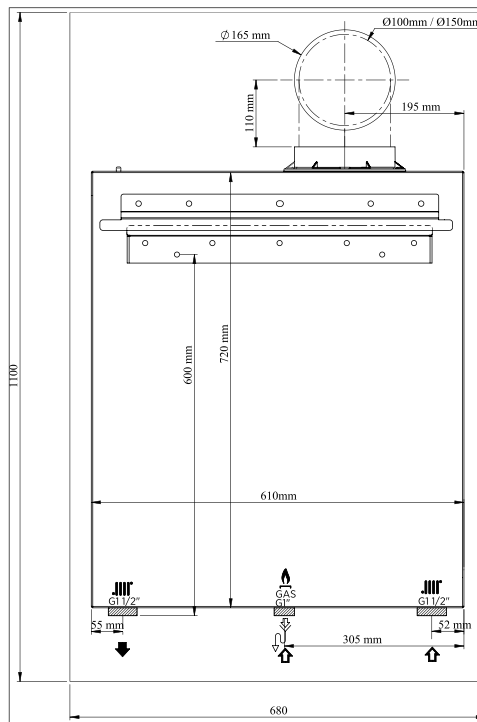

Figure 2.1 Mounting Template of Viwa 125 & Viwa 150 (Back view)
- Mounting Template (Figure 2.1 and 2.2)